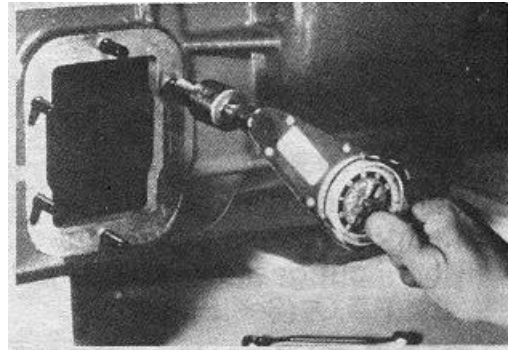

Fig. 6
6. Tighten the studs securely and torque to 30-35 lbs. ft. (4.14-4.84 kg meters) for 6 bolt and 45-50 lbs. ft. (6.22-6.91 kg meters) for 8 bolt. (See Fig. 6.)